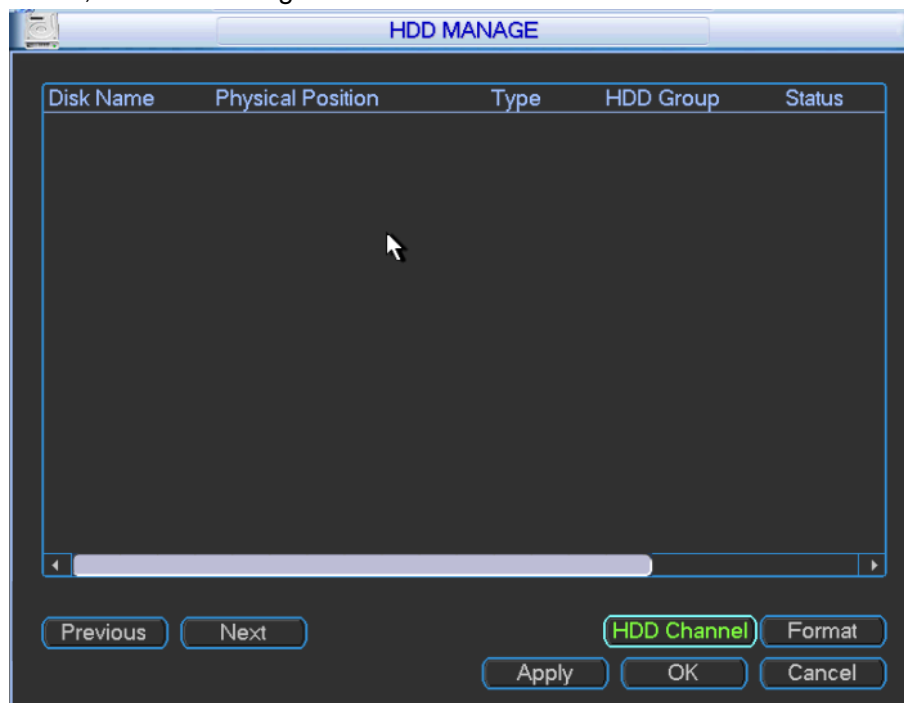

Figure 3-68
Step 1 In main menu, select "Advance > HDD Manage". The system displays "HDD Manage" interface, as shown in Figure 3-68.